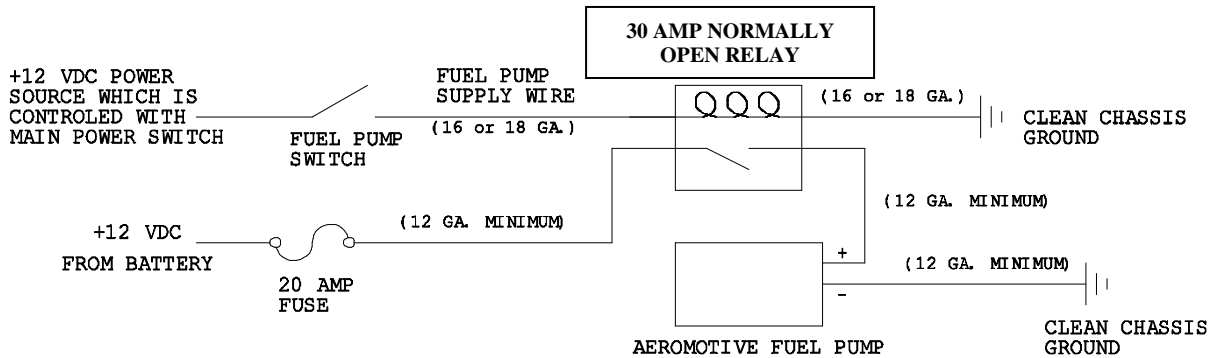

Figure 2-1
17. Prep the new tank by making all the necessary connection (feed, return, vent and electrical) before placing tank in vehicle. In most cases, once the tank is placed in the vehicle these connections will not be accessible. For electrical wiring refer to **Figure 2-1**.